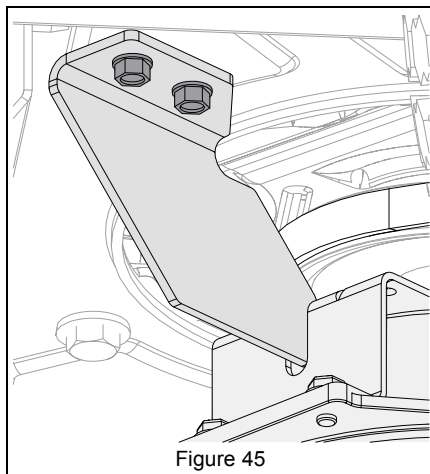

Figure 45
4. Reinstall clutch stop bracket and secure with original hardware. See Figure 45.